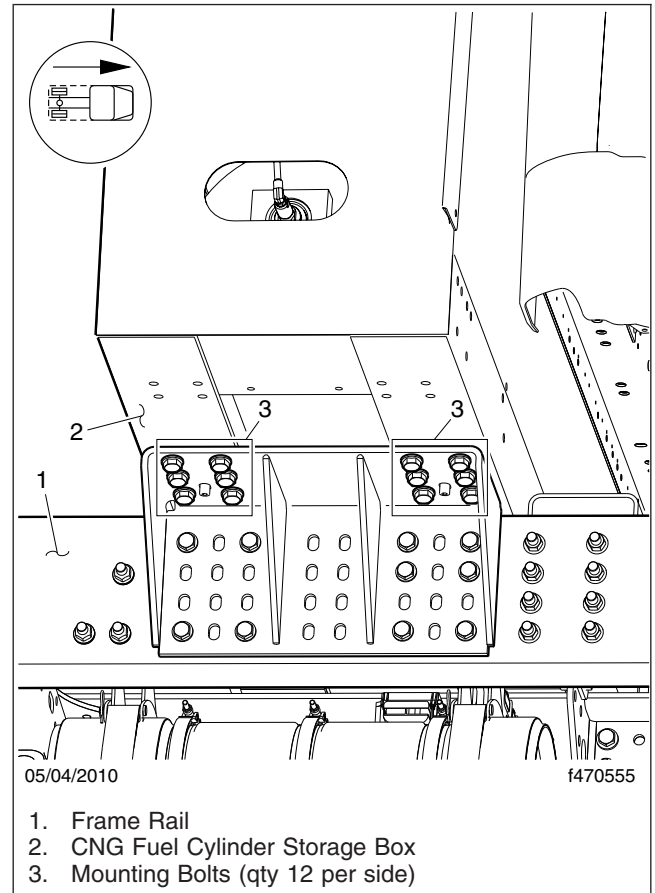

Fig. 11, Fuel Cylinder Storage Box Mounting Bracket (passenger side shown)
3. Ensure that the fuel cylinder storage box is secured to the frame. Inspect for any signs of looseness. If necessary, tighten the storage box mounting bolts 160 lbf·ft (217 N·m). See **Fig. 11**.
NOTE: During initial pre-delivery inspection (PDI), tighten the storage box mounting bolts (shown in **Fig. 11**) 180 lbf·ft (244 N·m).